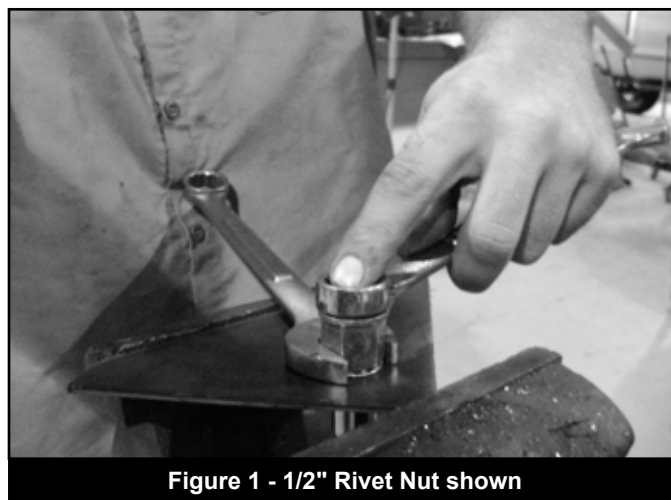

Figure 1 - 1/2" Rivet Nut shown
6. For a 3/8" rivet nut, hold the nut closest to the rivet nut still with an 5/8" wrench and tighten the 3/8" bolt with a 9/16" wrench to set the rivet nut. Be sure to hold the rivet nut flush to the surface and square to the hole as it is tightened. **Figure 1**
7. For a 1/2" rivet nut, hold the nut closest to the rivet nut still with a wrench and tighten the 1/2" bolt with a 3/4" wrench or impact gun to set the rivet nut. Be sure to hold the rivet nut flush to the surface and square to the hole as it is tightened. **Figure 1**